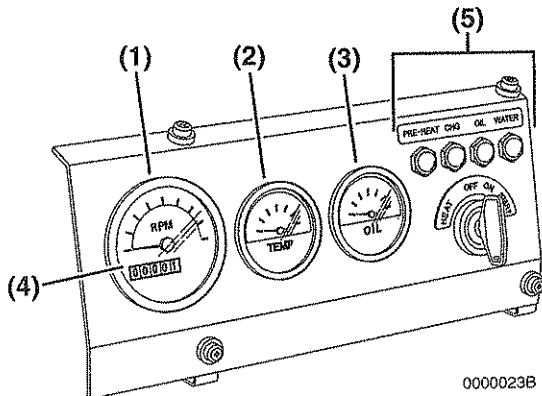
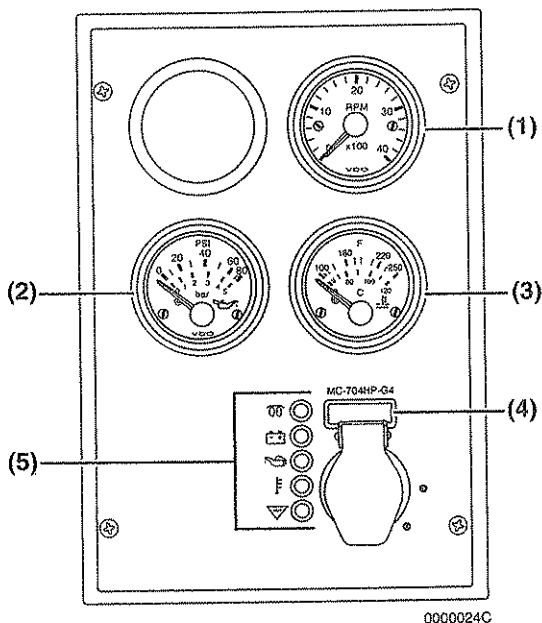

Figure 4
Figure 5
1. While the engine is running, check the gauges for normal indications. The gauges shown in **Figure 5** and **Figure 4** are provided for illustrative purposes only.
- **Tachometer (Figure 5, (1)) or (Figure 4, (1))** - Make sure the engine speed is within normal limits. See *Engine Speed Specifications* on page 112.
- **Engine Oil Pressure (Figure 5, (2)) or (Figure 4, (3))** - Make sure the engine oil pressure is within normal limits. See *Principal Engine Specifications* on page 113.
- **Engine Coolant Temperature (Figure 5, (3)) or (Figure 4, (2))** - Make sure the engine coolant temperature is within normal limits.
- **Hour Meter** - The hour meter display (**Figure 5, (4)) or (Figure 4, (4))** shows the total number of hours the engine has run. This is useful for planning periodic maintenance operations. See *Periodic Maintenance Schedule* on page 69.
2. After the engine has reached operating temperature, all of the indicators (**Figure 5, (5)) or (Figure 4, (5))** should be off. If any of the indicators are on, shut down the engine and have the necessary repairs performed.